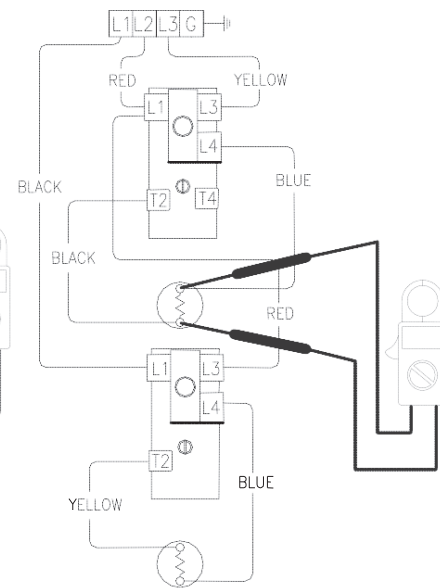

Figure 48
6. Check across upper element terminals (see Figure 48).